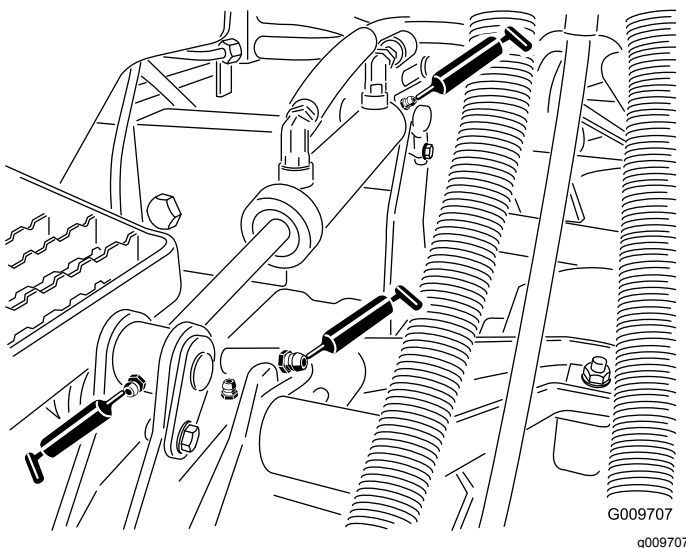

Figure 46
- Lift-arm bushings (1 per deck) (Figure 46)
- Lift-cylinder bushings (2 per deck) (Figure 46)